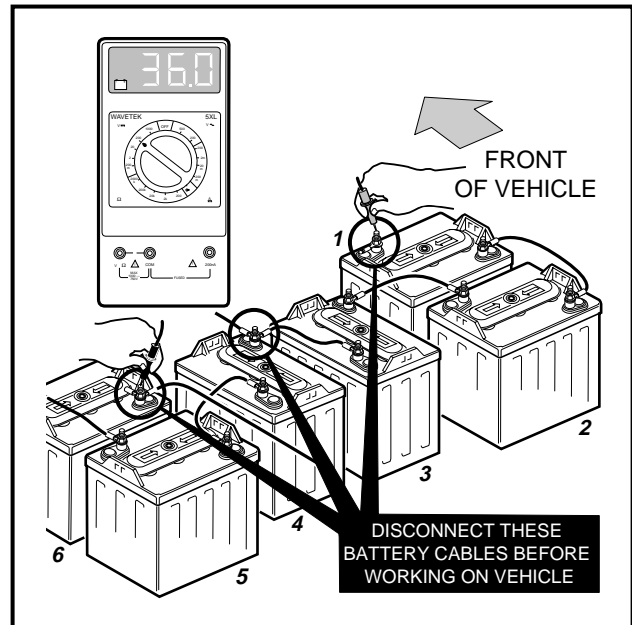

Figure 14-7 Battery Terminal Voltage
3. Measure battery terminal voltage between the positive post on battery No. 1 and the negative post on battery No. 6 (**Figure 14-7, Page 14-7**). The voltage reading should be the same as at the receptacle.